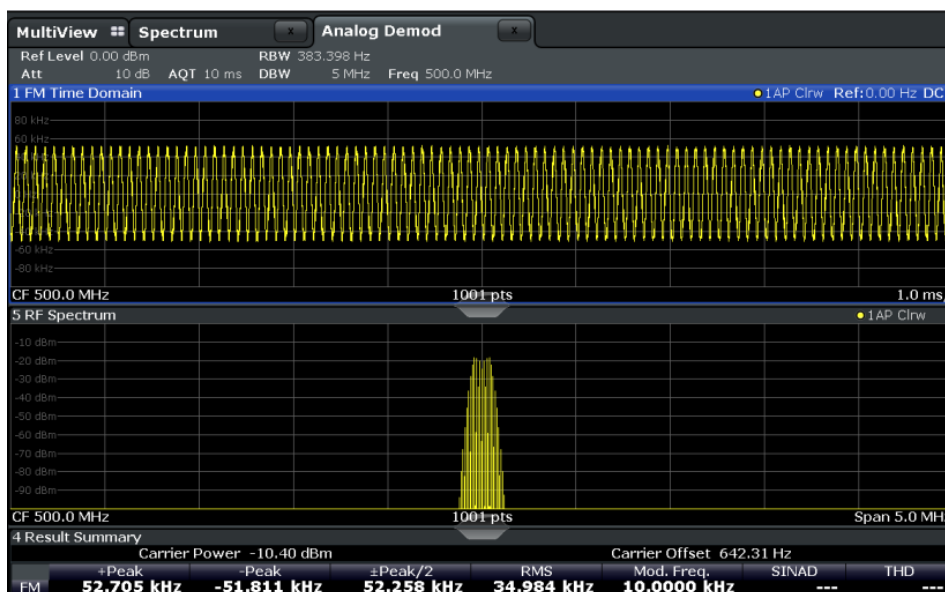

Fig. 9-4: RF spectrum of FM signal with default demodulation bandwidth = 5 MHz
- As you can see in figure 9-4, the default demodulation bandwidth of 5 MHz is much too large - the actual signal takes up only a small part of the displayed range. That means that any noise or additional signals apart from the FM signal of interest may be included in the measured results. Select the "Demod BW" softkey and reduce the value to 200 kHz.